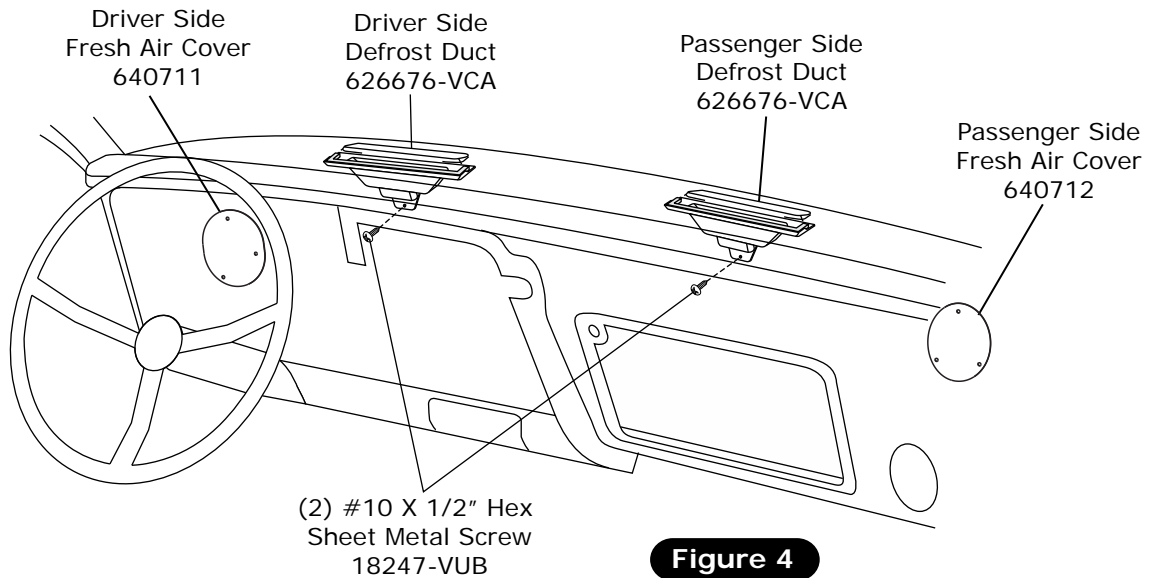

Figure 4
1. Install defrost ducts under dash as shown in Figure 4, below. Align defrost duct with defrost opening in dash, and hold in place. Use bracket as template and drill 7/64" hole. Secure using a #10 X 1/2" hex sheet metal screw.
2. If vehicle is equipped with astro ventilation, you must install driver and passenger side fresh air covers, and secure using OEM hardware (See Figure 4, below).